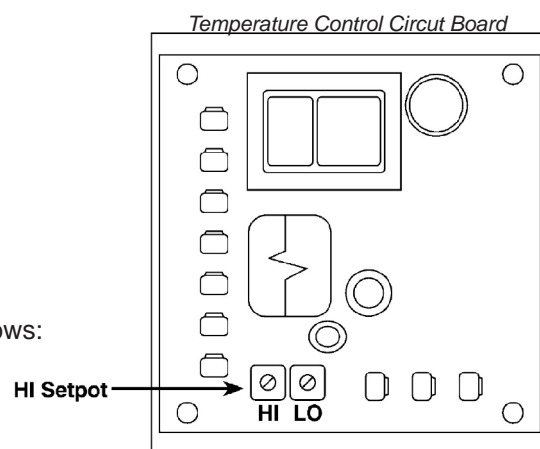

Fig. 6-1
7. Locate temperature control circuit board (see Figure 6.1) and calibrate as follows: